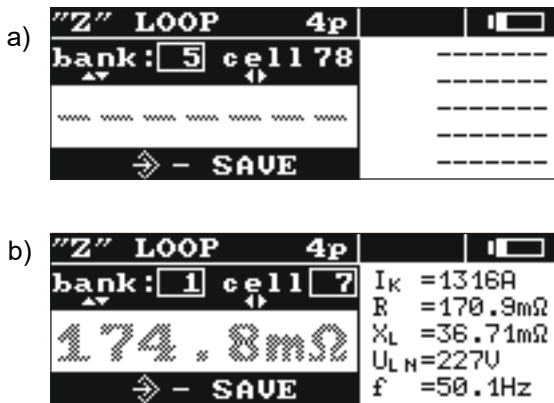

Fig. 27 The layout of the screen in the store-in-memory mode: a) empty cell b) cell with the recorded result (the main result is displayed in grey)
- Press the key **ENTER**. The currently used bank number and the address of the currently used cell will be displayed on the screen (Fig. 27). The border around the bank number means that at least one cell in the bank is occupied. The border around the cell number means that the cell is occupied.